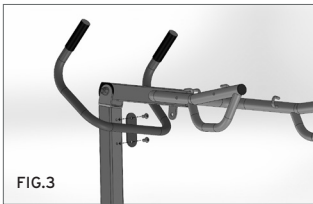

FIG.3
5. Position and Fix the Handle on the column with the provided screws. (Fig.3)